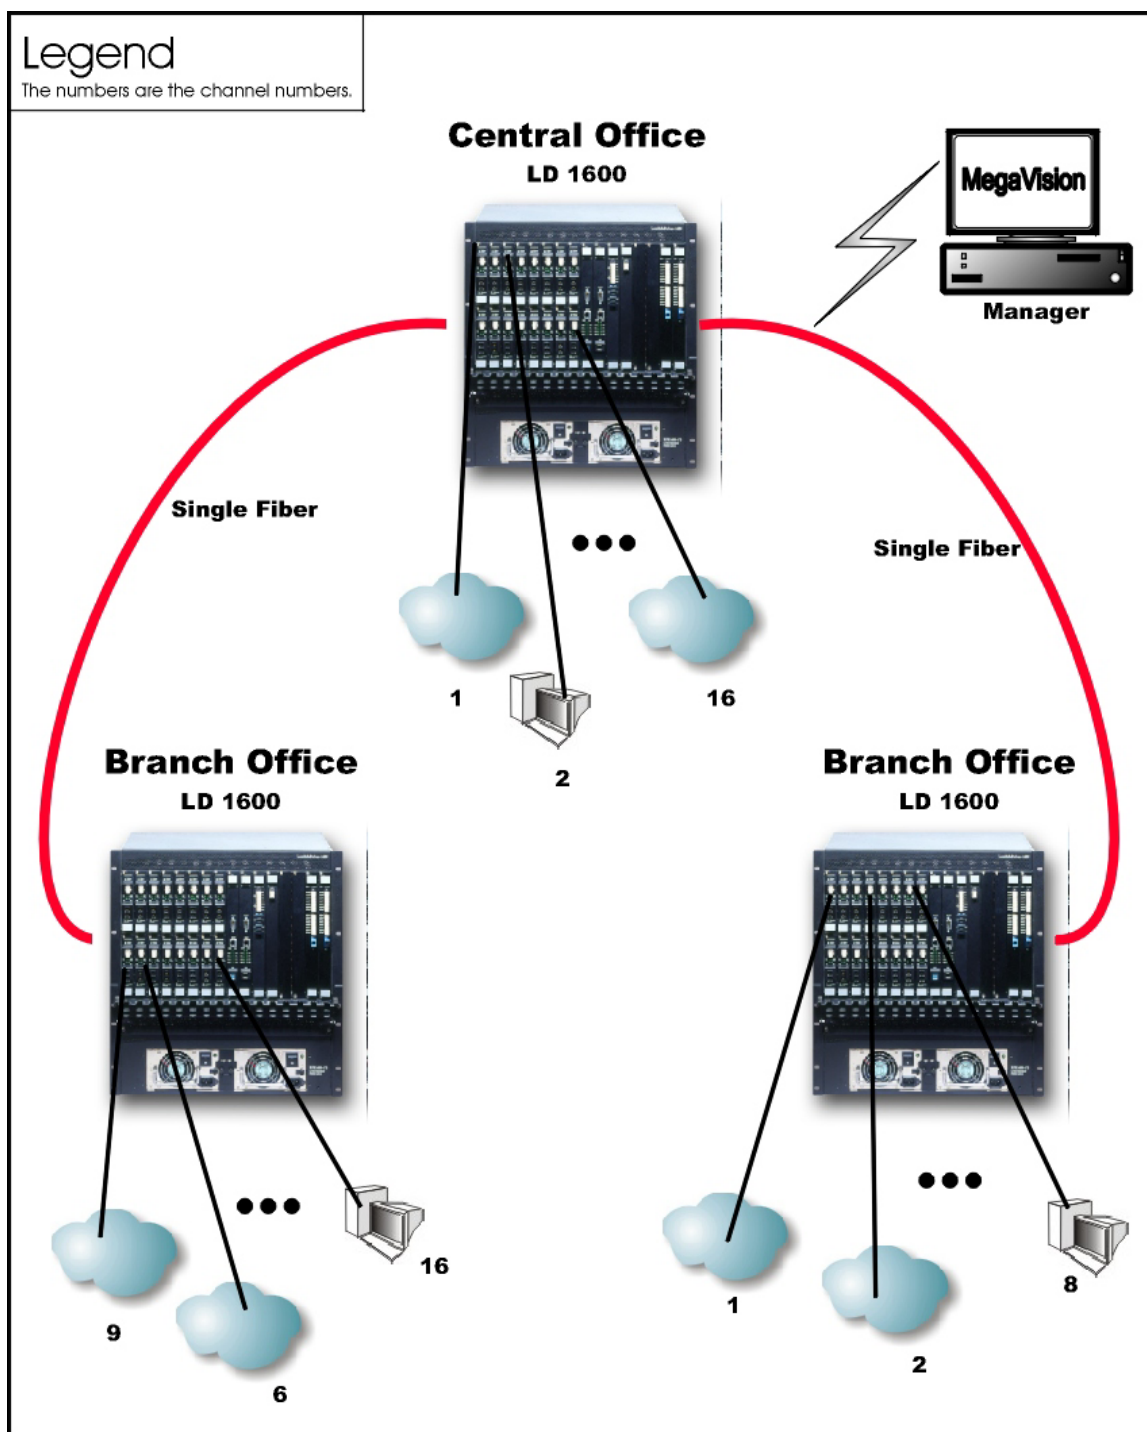

Figure 26: Star with up to 8 Full-Duplex Channels
In the Star Network topology (example shown in *Figure 26*), although up to 16 channels can be created across the network using two single-fiber cables, a channel on one fiber can be used to either transmit or receive; not both. This means that two channels are required for transmission and reception between two access-equipment units (e.g., LANs, PCs, etc.). Accordingly, up to 32 access-equipment units can be interconnected with this network topology – two per channel. All channels run from the Branch Office (BO) LD1600s to the Central Office (CO) LD1600, i.e., no channels exist between the BOs.